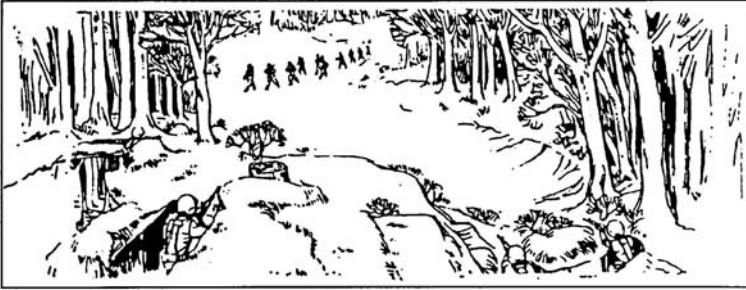

Figure 071-010-0006-13. Linear targets with depth
f. Moving target. To hit a moving target, estimate the speed of the target and the lead required to fire and hit it. Fire, then track the target as it moves. Adjust the lead by observing tracers and the strike of the bullets (figure 071-010-0006-14 and figure 071-010-0006-15).